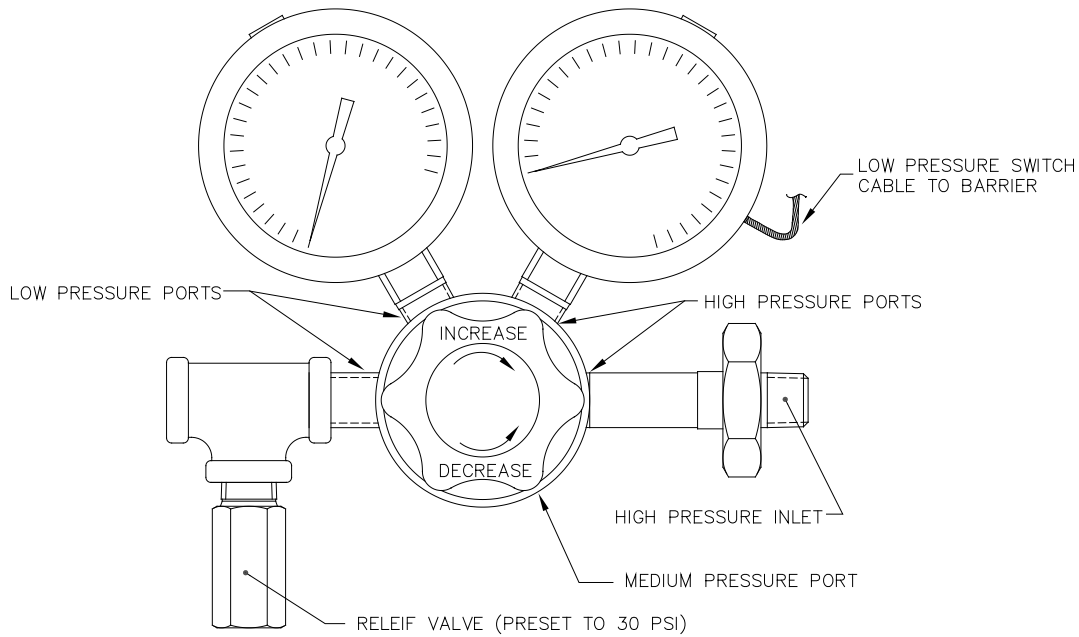

Figure 3-43 Calibration Gas Pressure Regulator with Relief Valve
- Calibration blend regulator assembly with low pressure switch (see Figure 3-43)